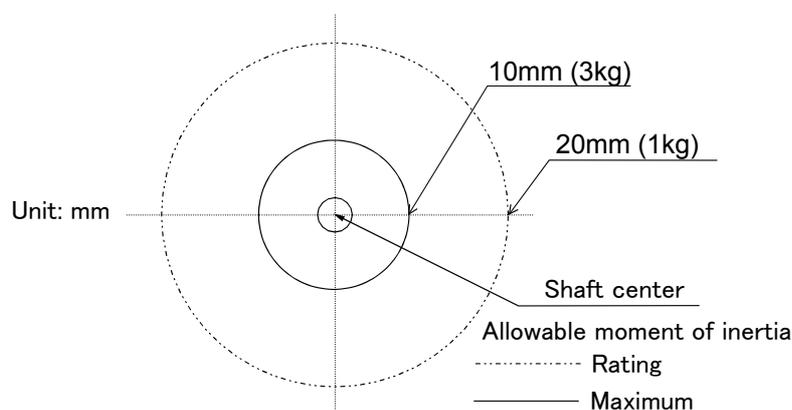

Fig.2-6 : Position of center of gravity for loads (for loads with comparatively small volume)
- (2) Fig. 2-6 shows the distribution dimensions for the center of gravity in the case where the volume of the load is relatively small. Use this figure as a reference when designing the tooling.
Please use the robot in the allowable moment of inertia of maximum moment of inertia shown in Fig. 2-6, when loading mass is maximum (3kg).